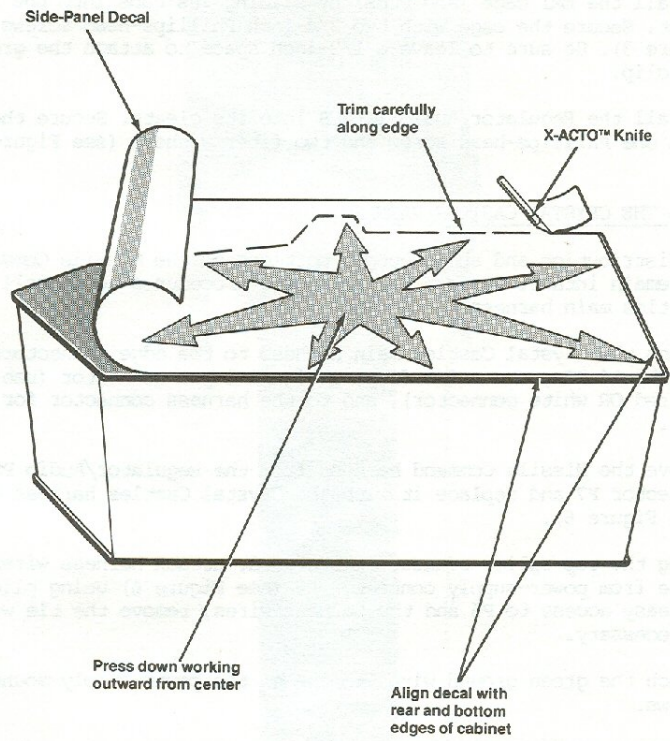

Figure 4 Applying the Side-Panel Decals
7. Align the bottom and rear edges of the decal with the bottom and rear edges of the cabinet (see Figure 4).
9. Carefully insert a #11 X-ACTO blade (or suitable substitute) between the T-molding and the edge of the side panel and, following the contour of the cabinet, cut off the excess decal. Rub the edges firmly with a cloth to smooth down any rough edges (see Figure 4).